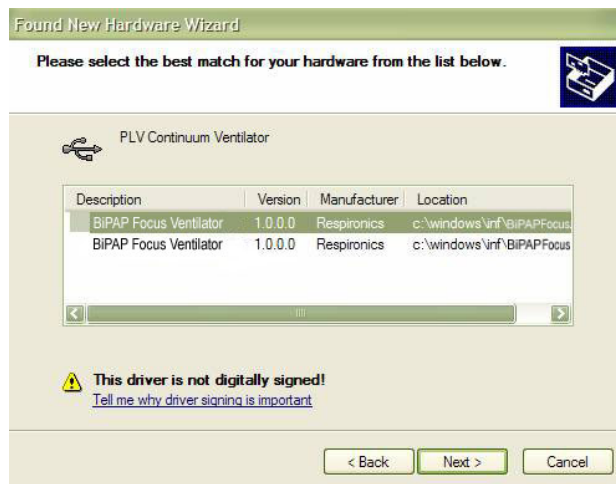

Figure 6-2: New Hardware Wizard - Selecting the driver
4. Select the BEST driver then click **Next**. Refer to Figure 6-2.